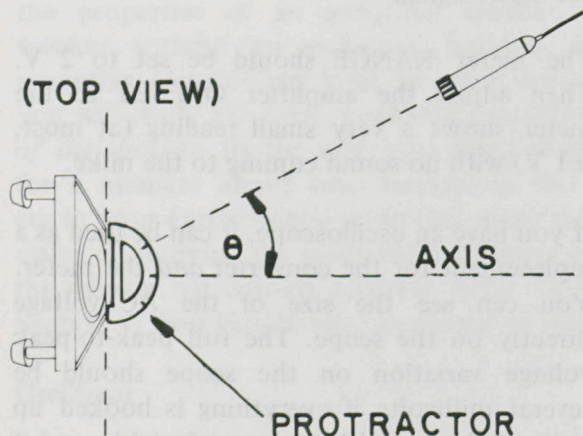

Figure 34. Measuring the angle to the microphone.
4. Move the microphone to a new position, say  $20^\circ$  off-axis, and move it in and out along the line which makes an angle of  $20^\circ$  with the axis. That is, move it closer to or farther from the speaker until the voltage reading is the same as before. Always aim the mike at the speaker, as shown in Figure 34.